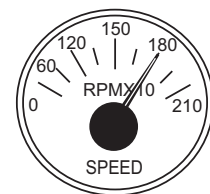

Figure 53. Engine Tachometer Gauge
9. The tachometer (Figure 53) will indicate the speed of the engine when the generator is operating. Under normal operating conditions this speed is approximately 1,800 RPM.